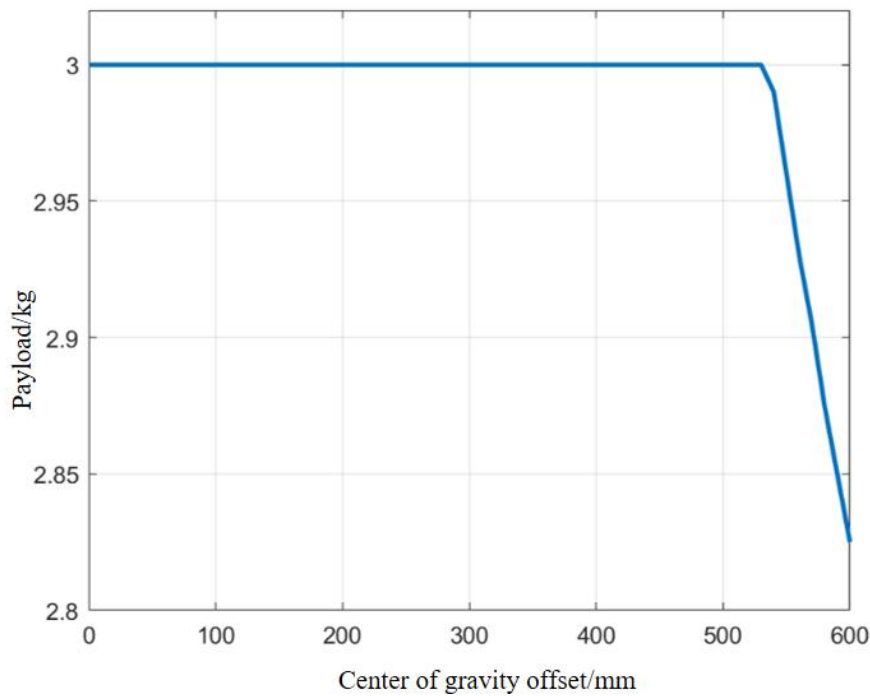

Figure B-1 G3 payload and Center of Gravity Offset Curve
- The relationship curve between the payload of the G3 collaborative robot and the load center of gravity offset is shown in Figure B-1.